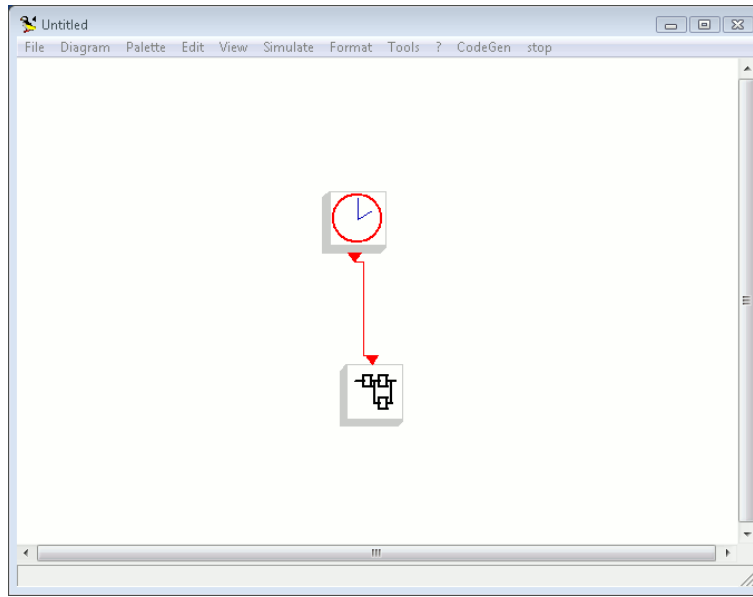
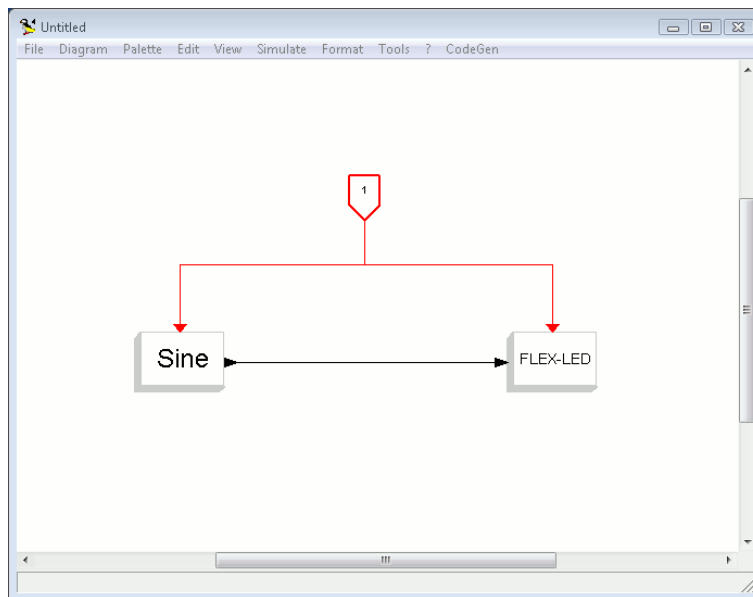

Figure 5.15: The Super Block.
Figure 5.16: The contents of the Super Block.
14. As a result, a Super Block is created (see Figure 5.15), which contains the `Sine` and `LED` blocks. To see these blocks, just single click on the Super Block, and another window will appear (see Figure 5.16). Please note that this window is very similar to the previous one except that the `clock` object is substituted by a placeholder signed with the number 1.